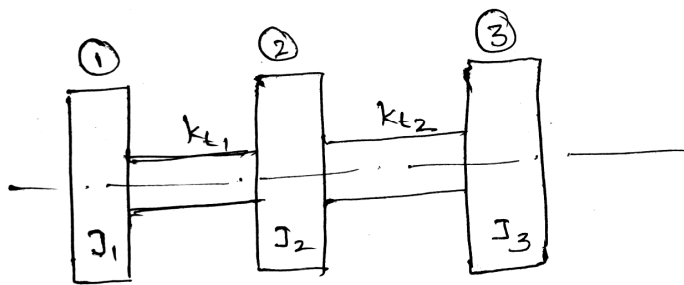

Figure 5 Q.10
10. Determine the natural frequencies of the system shown in Fig. 5 using Holzers method. Given  $J_1 = J_2 = J_3 = 1 \text{ kgm}^2$ ,  $K_{t1} = K_{t2} = 1 \text{ Nm/rad}$ . 20